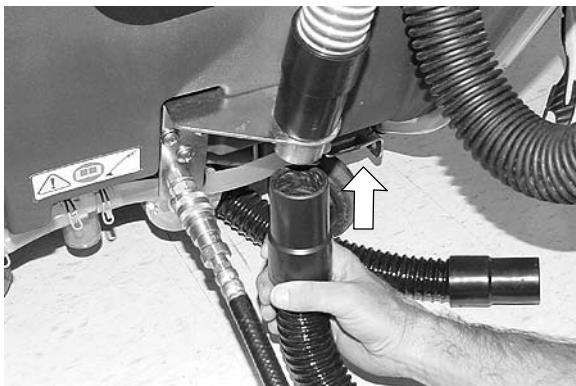

FIG. 12
3. Disconnect the lower vacuum hose from the machine and replace it with the accessory tool's vacuum hose (Figure 12).